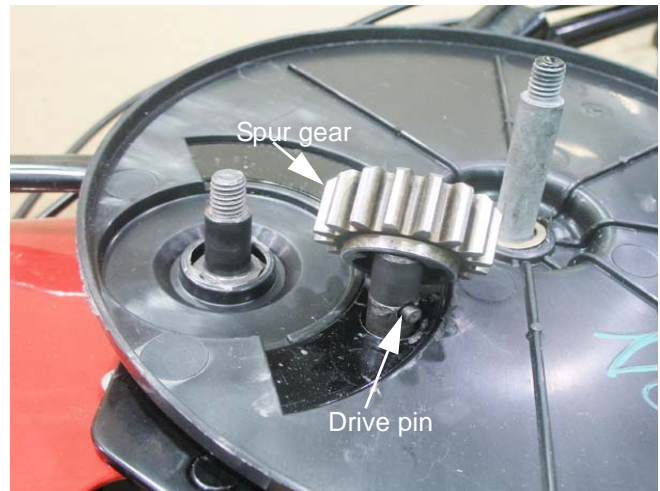

Figure 6.25
8. Beneath the spur gear is a drive pin. Lubricate the drive pin with a small amount of anti-seize compound on assembly. See Figure 6.25.